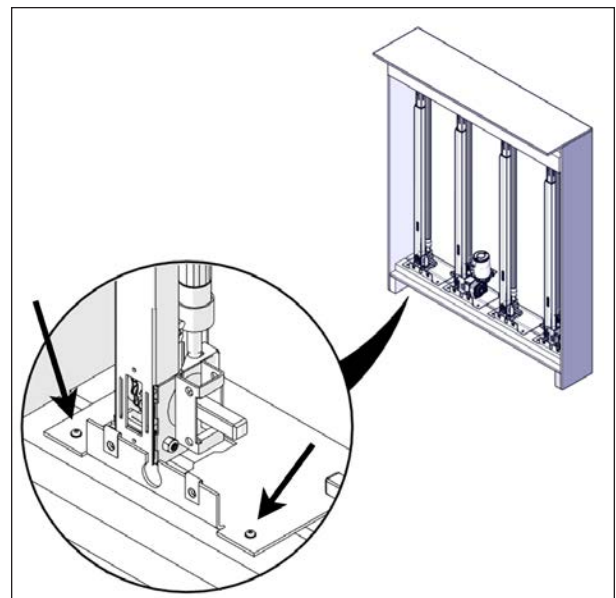

FIGURE 23: JACK BOTTOM SCREW REMOVAL
12. Remove the jack assembly by unscrewing the Robertson #8 x 1.5" screws. There are two screws at the bottom of each jack, see Figure 23.